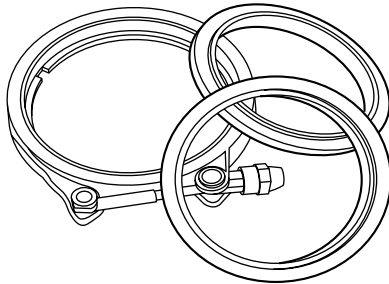

Figure 15-18:
- **V-band couplers.** These couplers take the place of flanges, gaskets, and bolts in exhaust assembly. They allow for the quick and easy removal and reinstallation of exhaust components. Figure 15-18 illustrates a few V-bands.